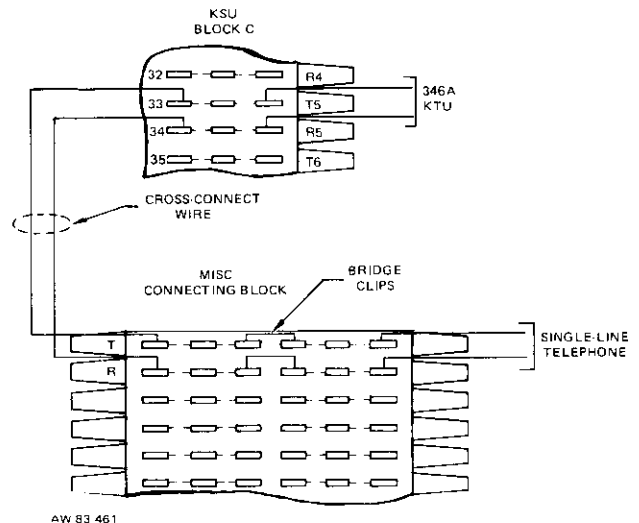

Figure 21: Connecting Details, 346A KTU to Single-Line Station
- (d) On KSU connecting block C, connect the Tn and Rn terminals associated with the card connector for the 346A KTU to the MISC connecting block on the MDF for connection to the single-line telephone. (See Figure 21.) Multiple the leads to all assigned single-line telephones.